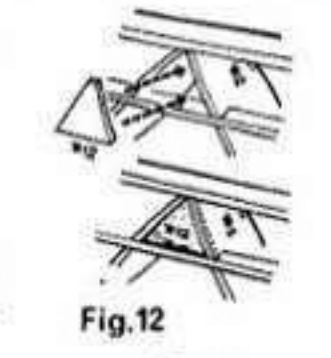
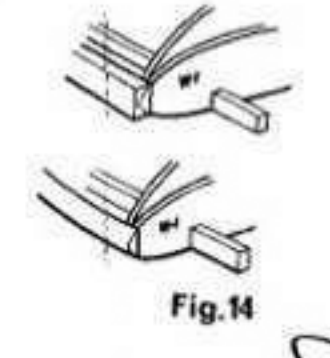
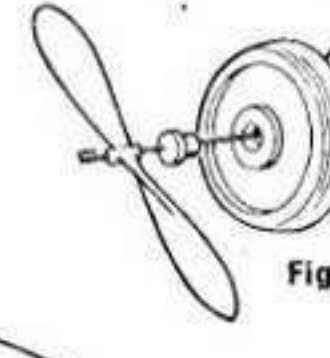
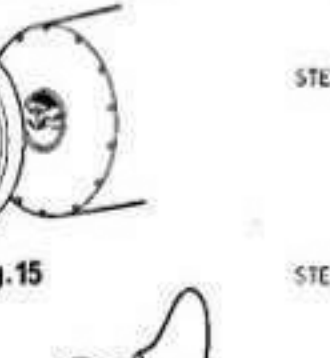

FIG. 11
FIG. 12
FIG. 13
FIG. 14
STEP 12. Glue W 10 to W 8 (Fig. 11) at angle shown in FIG. E. Cut leading edge spar to length (FIG. D) and glue to front of ribs, or to hold in position while drying. (Note: W 11 will make assembly of leading edge easier if the tips of wing formers are sanded to a flat surface.) Cut leading edge spar part way to create the bend at W 11. Glue W 11 in position. When dry pins may be removed. Proceed by gluing W 12 into place (Fig. 12). Now complete wing by gluing top stringers into notches (Fig. 13), trim off excess when dry. Repeat wing assembly steps for other wing half. Finish leading edges by trimming excess wood and sanding to rounded edge (Fig. 14). Trailing edge can also be sanded and rounded at this time.